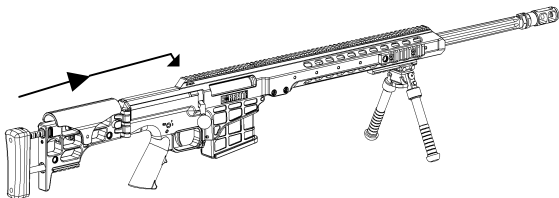

Figure 19.
3. GENTLY slide the bolt forward and down until it stops. (Figure 19.)